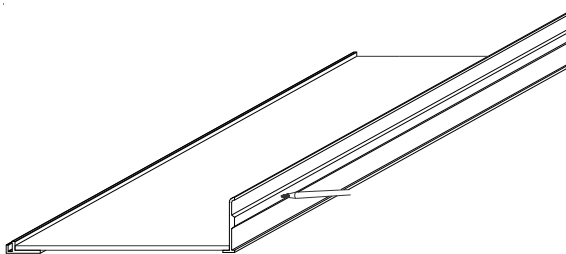

Figure 5
**STEP 5.** Select a section of the cover plate. If the anchor holes have not been predrilled in the cover plate at the factory, mark the locations for the anchor holes on the selected cover plate (see Figure 5). Standard anchor spacing is 20" O.C. with an anchor at a nominal 3" from each end of the base member. Repeat this procedure for each base member section.